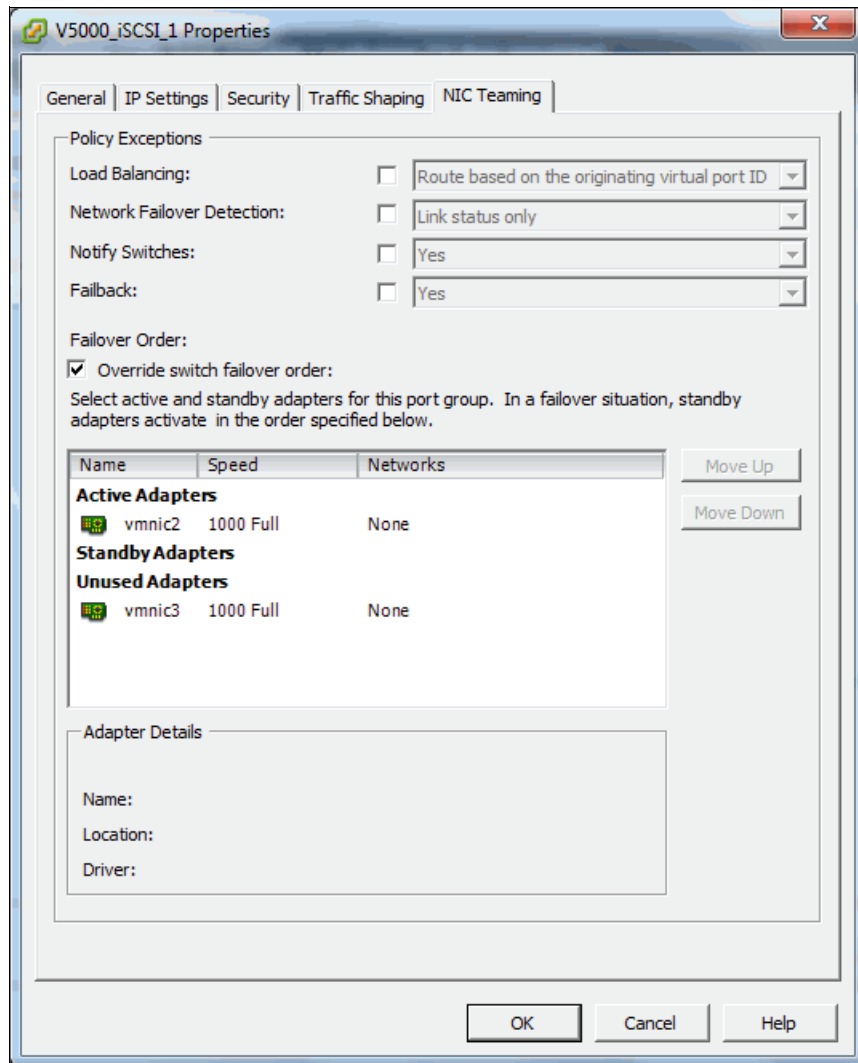

Figure 4-30 Configuring a VMkernel port to bind to a single physical adapter port
4. Go to the NIC Teaming tab, select **Override switch failover order**, and then ensure that each port is tied to just one physical adapter port, as shown in Figure 4-30.